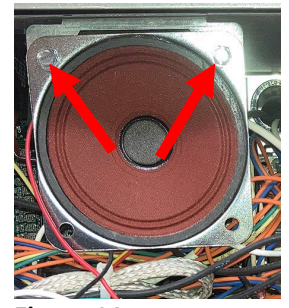

Figure 21
- Remove the two (2) screws attaching the speaker to the bracket (see Figure 21).